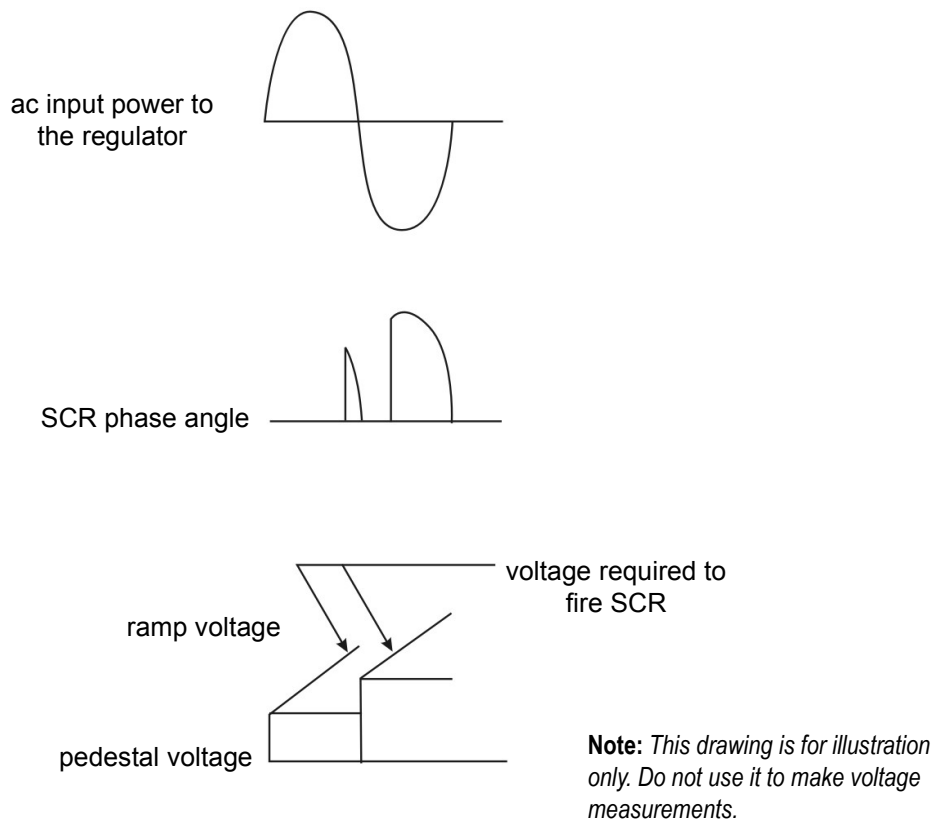

Figure 2: Effect of timed gating signal on SCR phase angle
The phase control circuit is a "ramp-and-pedestal" control that regulates the phase angle of the power controller circuit SCRs by controlling the "turn on" signal it supplies to the gate of the SCRs. An exponential ramp voltage that starts from a voltage pedestal provides the "turn on" gating signal. Because the ramp voltage starts from the voltage pedestal, a small change in the amplitude of the pedestal voltage results in a large change in SCR phase angle as shown in Figure 2.
- 1) For single-phase sensing, terminals are E1 and E3. See Figures 2 and 3.
- 5) A current transformer is required for generators operating in parallel. The connection is shown on this drawing: 1 A current transformer and reactive voltage droop compensation. See Figures 2 and 3.
From sensing transformers. See Figures 2 and 3.
To voltage range adjust and voltage adjust. See Figures 2 and 3.
From stability control. See Figures 2 and 3.
From sensing choke. See Figures 2 and 3.
To field F+. See Figures 2 and 3.